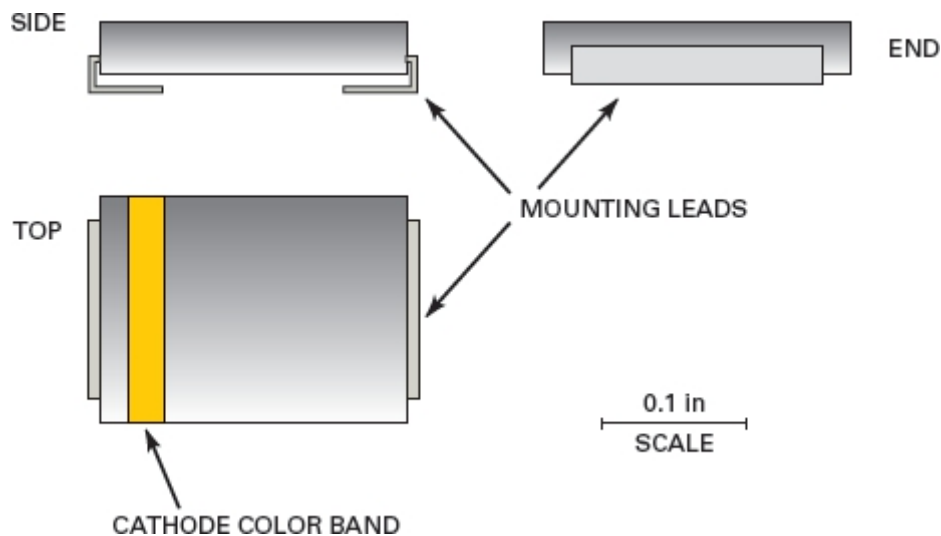

Figure-30 The two-terminal SM-style package used for SM diodes
- The **SM** package has two **L-bend** leads and a colored band on one end of the body to indicate the cathode lead. Figure-30 shows a typical set of dimensions.